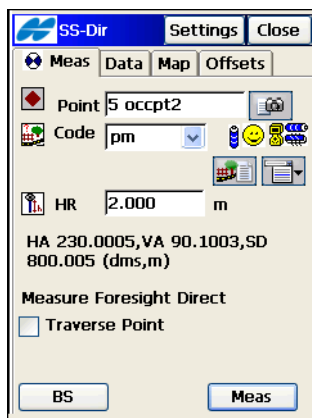
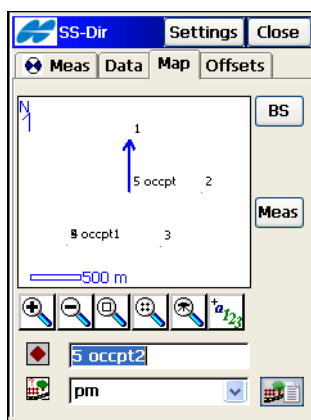

Figure 11-4. Sideshot-Direct – Measurement Tab
Figure 11-7. Sideshot-Direct – Map Tab
The *Meas* tab on the *SS-Dir* screen (Figure 11-4) contains the initial data for performing single sideshots and displays the following information during a survey.
- *Display Coord*: if chosen, the coordinates of the previous point measured displays below the HR data (Figure 11-4 on page 11-4).
The *Map* tab (Figure 11-7) on the second *SS-Dir* screen performs sideshots in the graphic mode. The buttons on the right duplicate the controls on the first *SS-Dir* screen (Figure 11-4 on page 11-4).
- *Display Coord*: if selected, the coordinates of the previous point measured displays below the HR data (see Figure 11-4 on page 11-4).